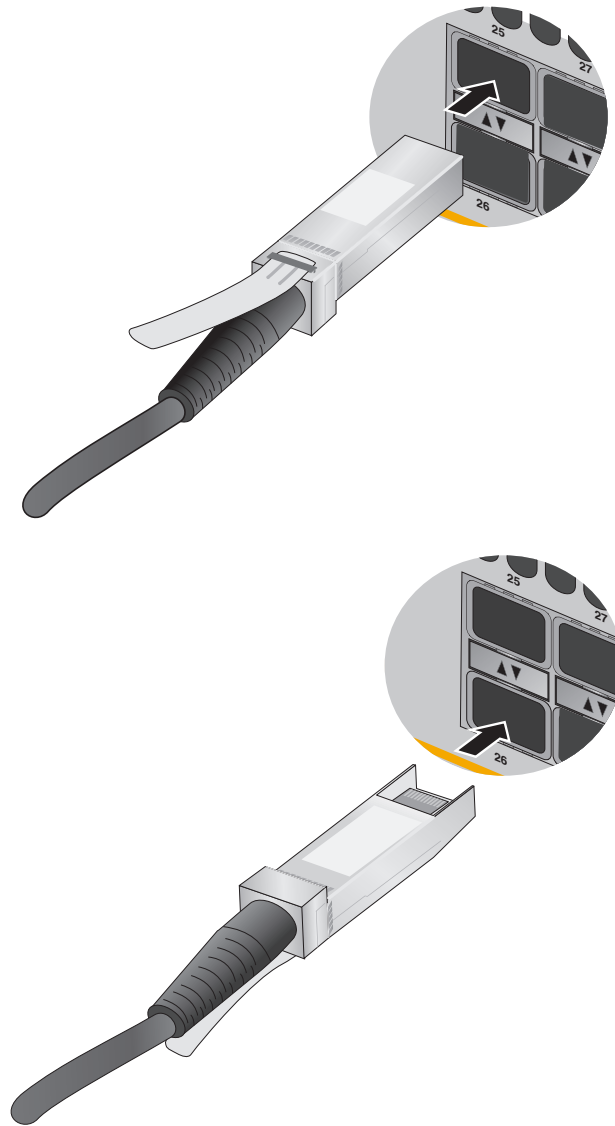

Figure 56. Installing SP10TW Cables
3. To install the transceiver in a port in the top row, position the transceiver with the Allied Telesis label facing up. To install the transceiver in a port in the bottom row, position the transceiver with the label facing down. Refer to Figure 56.